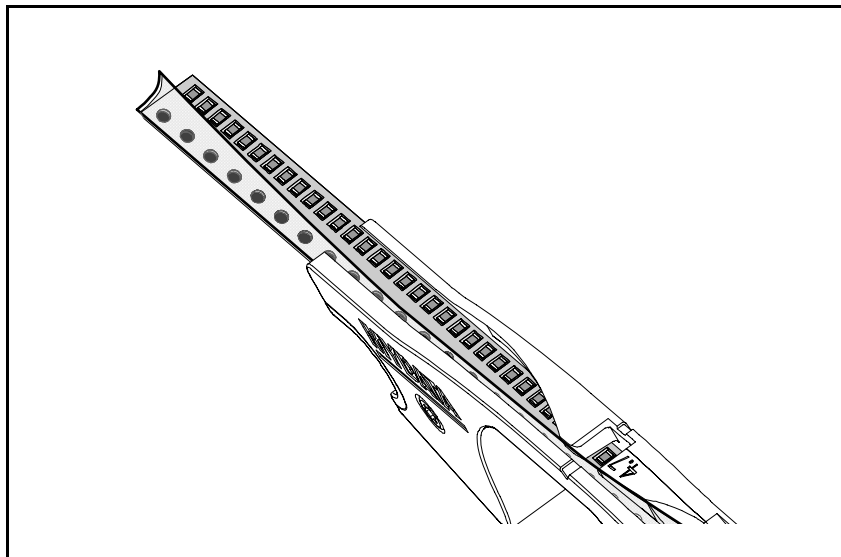

Figure 5-8. Pushing tape onto feeder.
2. Keep pushing the component tape onto the feeder and the cover tape will open, see Figure 5-8.